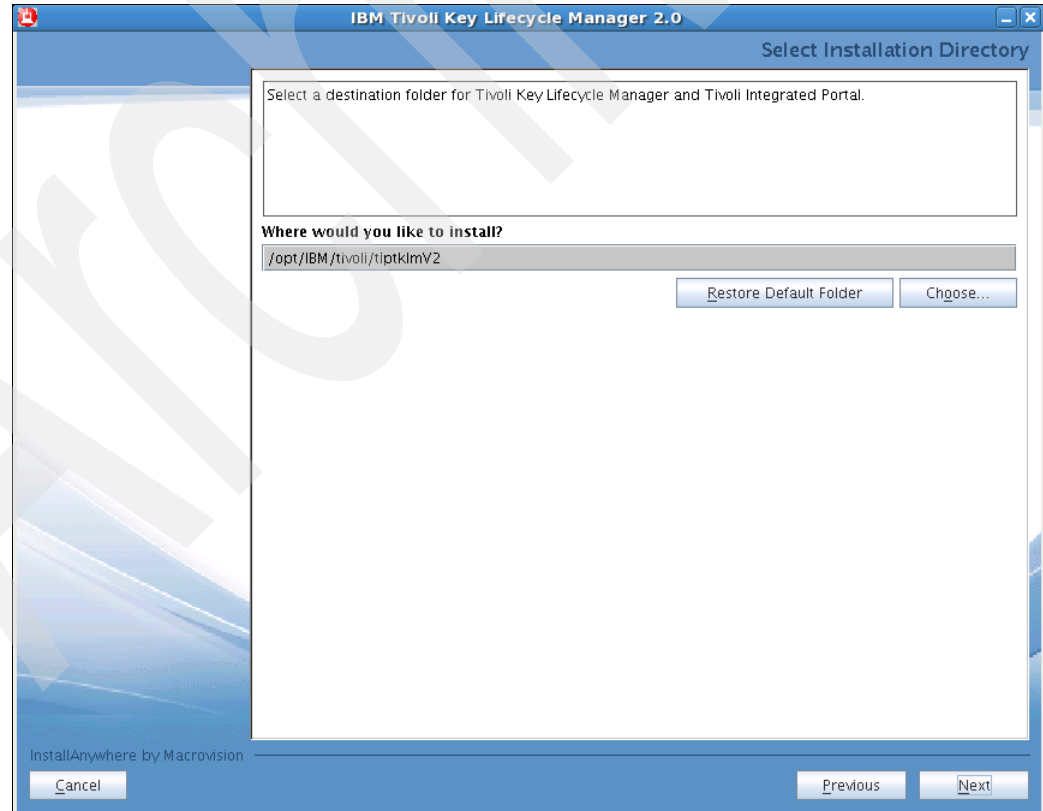

Figure 7-13 Specify TKLM installation folder
16. When the screen in Figure 7-13 is displayed, specify a TKLM v2 destination directory or leave the default. Click **Next**.